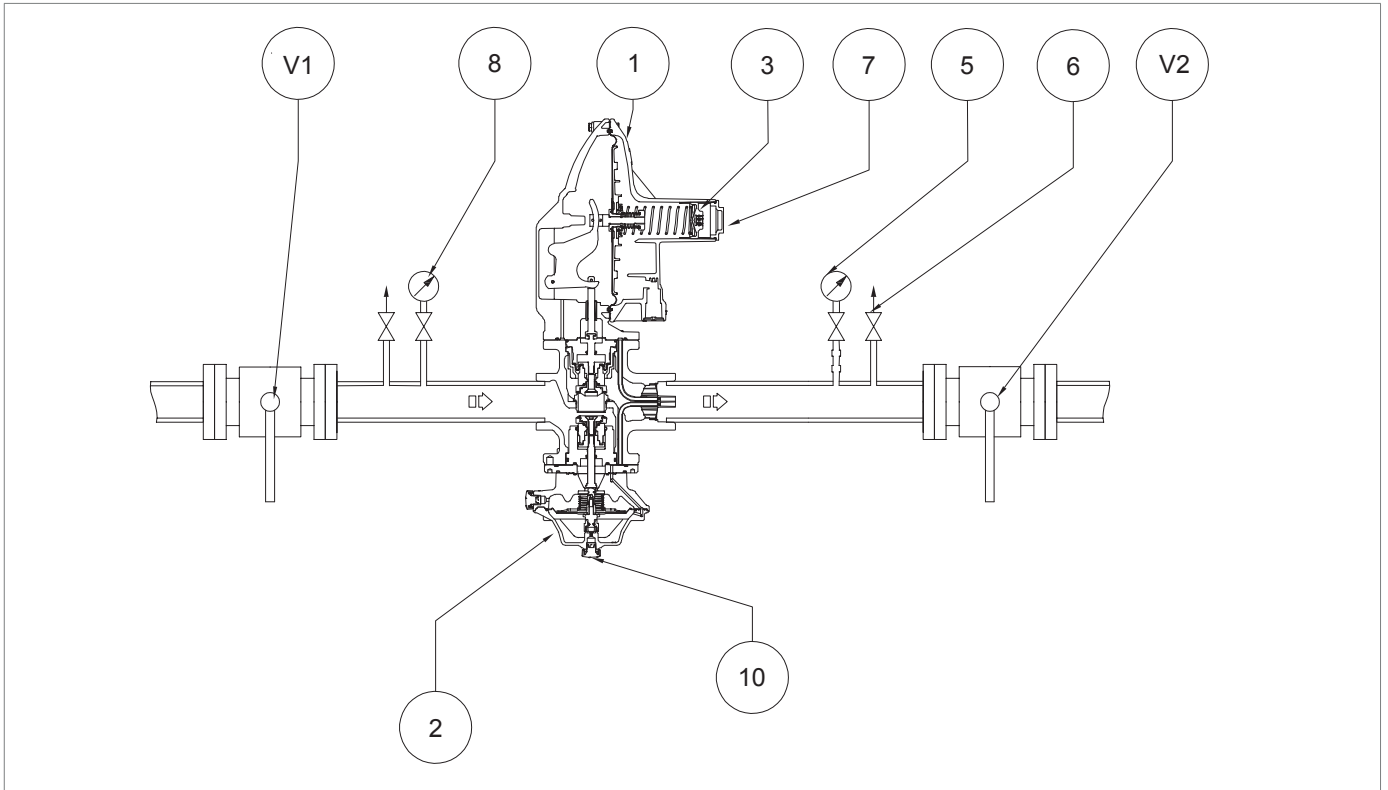

Fig. 8.24. Commissioning of the regulator CIRVAL + IMD built-in monitor
3	In case the required minimum pressure value is not reached by intervention of the minimum block, remove the adjustment ring nut (fig. 8.20, ref. 3) and remove the adjustment spring (fig. 8.24, ref. 8). NOTICE Check the value of the slam-shut valve tripping pressure indicated by the downstream pressure gauge (fig. 8.20, ref. 5).
5	After verifying that the slam-shut valve trips at the preset value, act as follows: <ol style="list-style-type: none"> Close the air vent valve (fig. 8.20, ref. 6) Position the adjustment spring (fig. 8.24, ref. 8), the end cap (fig. 8.24, ref. 7), adjusting screw (fig. 8.20, ref. 3) Slowly open the upstream shut-off valve (V1) until the downstream pressure value (Pd) reaches the regulator's set value, referring to the downstream pressure gauge (fig. 8.20, ref. 5) Close the upstream shut-off valve (V1) Slowly and partially open the air vent valve (fig. 8.20, ref. 6) to decrease the downstream pressure by referring to the downstream pressure gauge (fig. 8.20, ref. 5) until the minimum pressure trip value is reached Verify the correct calibration of the minimum spring by repeating steps 3-4-5 at least three times Perform calibration of the main regulator referring to par. 8.5